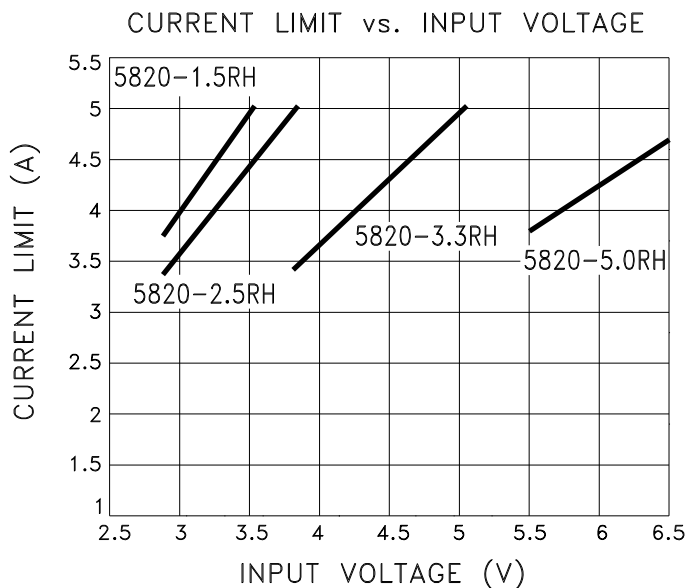

FIGURE 1
- ⑦ Output current limit is dependent upon the values of VIN and VOUT. See Figure 1 and typical performance curves.
- ⑧ Continuous operation at or above absolute maximum ratings may adversely effect the device performance and/or life cycle.
- ⑨ VIN shall be as specified or VIN min., whichever is greater.
- ⑩ Not applicable to versions where VIN = VIN Min.
- ⑪ Pre and post irradiation limits at 25°C, up to 300Krad TID, are identical unless otherwise specified.
- ⑫ Reference DLA SMD 5962F09216 for electrical specification for devices purchased as such.
- ⑬ Internal solder reflow temperature is 180°C, do not exceed.
The MSK5820RH current limit function is directly affected by the input and output voltages. Figure 1 illustrates the relationship between VIN and ICL for various output voltages. It is very important for the user to consult the SOA curve when using input voltages which result in current limit conditions beyond 4.5 Amps. When using input voltages which result in current limit above 4.5 Amps, the user must maintain output current within the SOA curve to avoid damage to the device. Note that 5 Amp maximum is due to current carrying capability of the internal wirebonds.